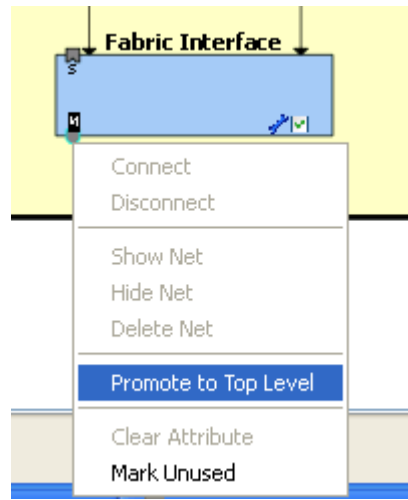

Figure 12 • Promoting MSS_Master_APB Bus Interface to Top Level
2. Select **MSS_Master_APB** bus interface on Fabric Interface and promote to the top level as shown in Figure 12.